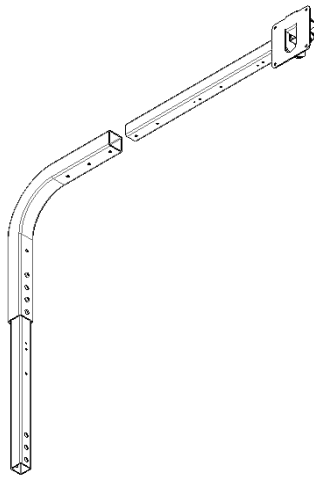

Fig. 2. Align Mounting Pieces
- Align Bent Tube and Horizontal Mounting Pieces. See Fig. 2.